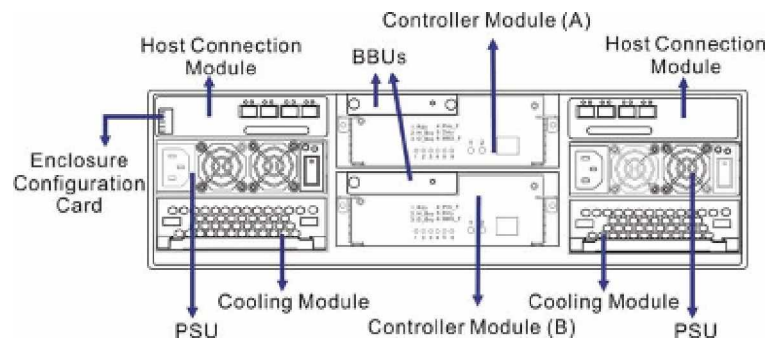

Figure 1-5: FALCON III Rear View
The FALCON III RAID storage subsystem chassis is an enhanced 3U metal chassis divided into front and rear sections, which are respectively accessed through front (see **Figure 1-3**) and rear (see **Figure 1-5**) panels. Pre-drilled mounting holes in the sides of the 3U RAID subsystem enclosure allow you to attach separately purchased slide rails so that you can install the enclosure into a rack or cabinet. Please see **Figure 1-2** for the components' locations in the subsystem and read the following sections for the front and rear panels descriptions.
The rear panel of the RAID subsystem described in this manual is shown in *Figure 1-5*. A description of each rear panel component is given below:
The rear panel shown in *Figure 1-5* accommodates the following components:
The FALCON III is equipped with two (2) redundant, hot-swappable, 460W PSUs, which are located at the rear of the enclosure. (See *Figure 1-5*) The PSU is permanently mounted into a 2U (dual-level) bracket especially designed to house both the PSU and a cooling module, which is mounted in the lower part of the 2U bracket. Hot-swapping the PSU requires the removal of the cooling module.